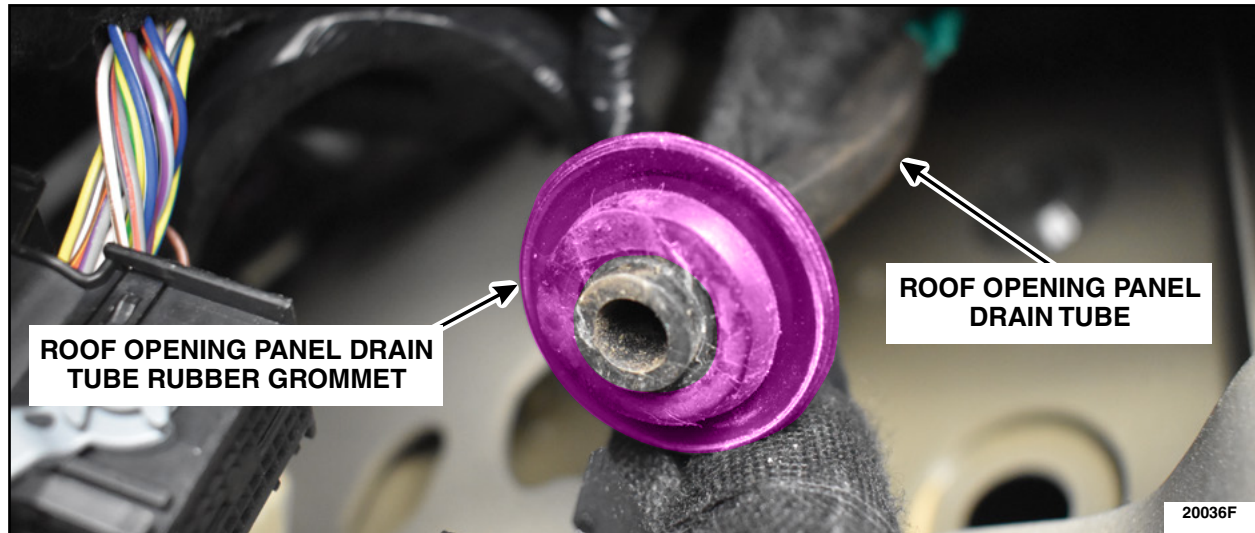

FIGURE 6
11. Is the grommet attached to the roof opening panel drain tube as seen in Figure 6?